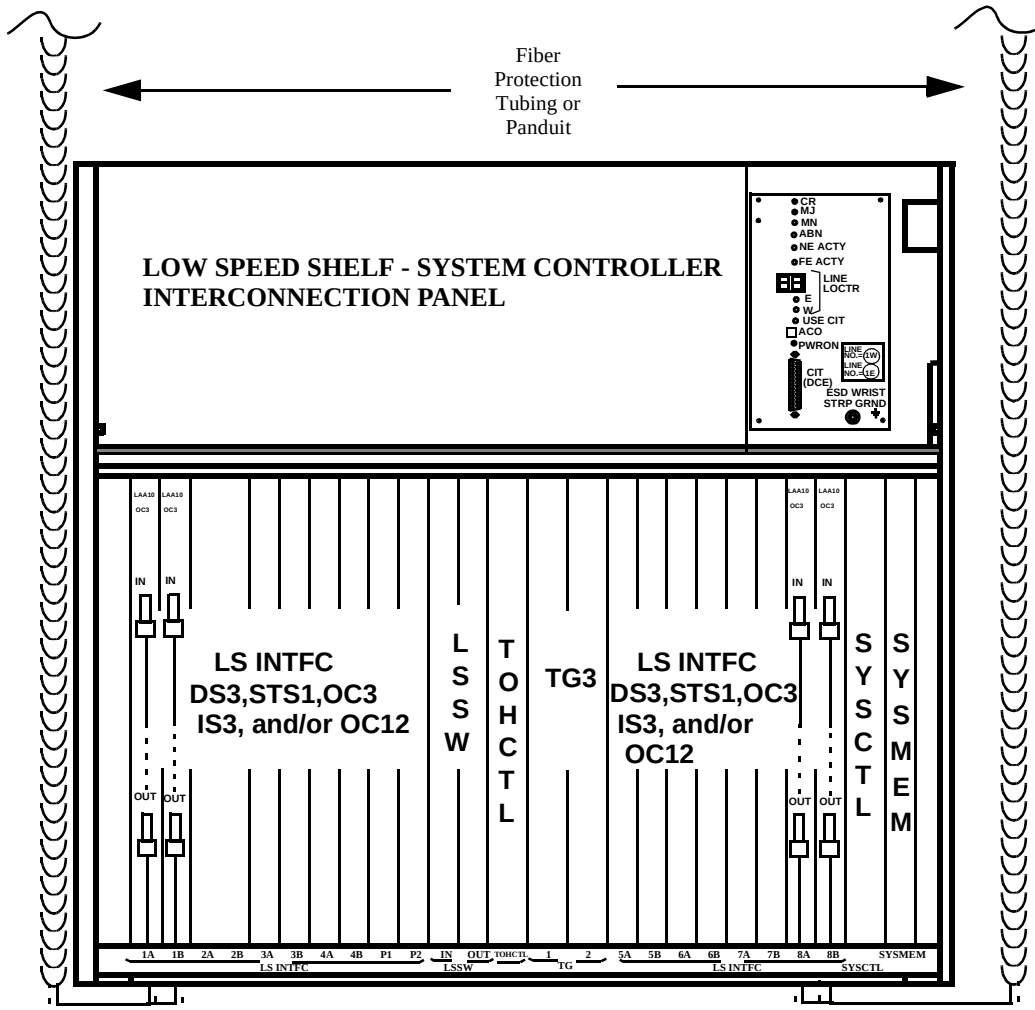

Figure 6 – Low Speed Shelf Fiber Routing (without Cover)
19. Route the optical fibers from the LGX to the protective channels located on each side of the bay. If the fibers are to be connected to OC-3/OC-12 circuit packs located in slots 1A through 4B then route the fibers down the left side of the bay. If the fibers are to be connected to OC-3/OC-12 circuit packs located in slots 5A through 8B then route the fibers down the right side of the bay. Refer to Figure 6.